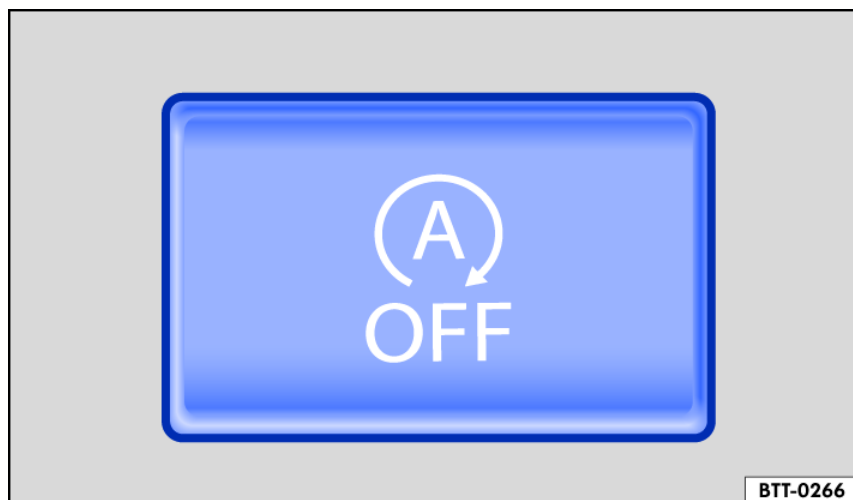

Fig. 111 In the upper section of the center console: Button for the start-stop system.
1. Press the  button on the center console to manually deactivate the system. When the start-stop system is deactivated, the indicator light on the button comes on fig. 111.
1. Press the  button on the center console again to manually reactivate the system fig. 111.